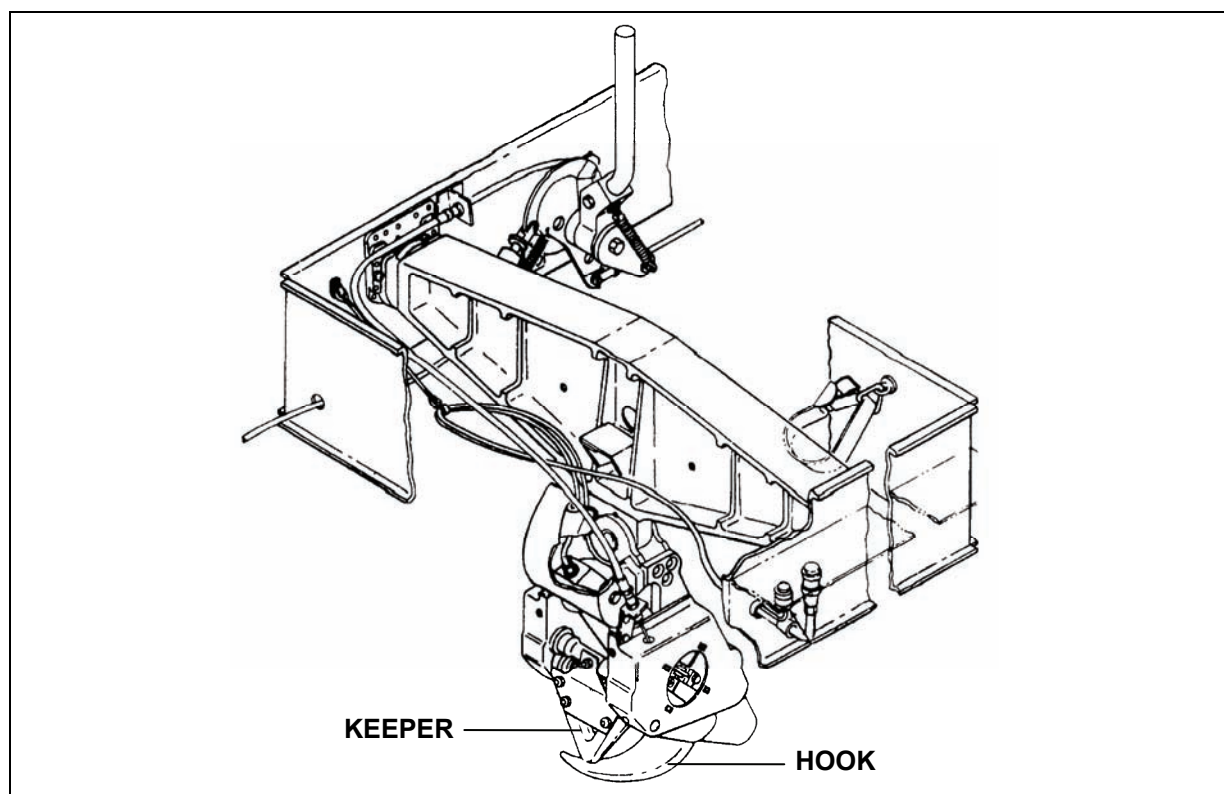

Figure 2-14. H-47 Center Cargo Hook
- The center cargo hook maximum capacity is 26,000 pounds and is attached to an I-beam mounted in an opening in the floor (Figure 2-14). The aircrew can open the cargo hook electrically or manually. The manual release is not accessible to the ground crew; therefore, the ground crew must manually depress the spring-loaded keeper and remove the apex fitting from the cargo hook.